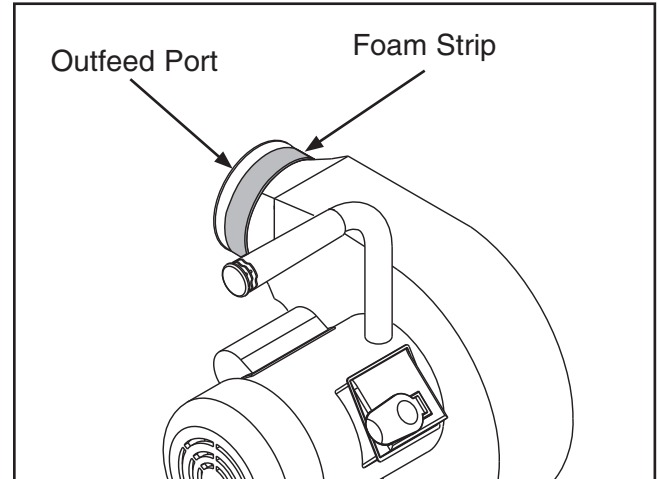

Figure 9. Location to install foam strip.
3. Wrap the foam strip around the outfeed port of the collector body, as shown in **Figure 9**. Cut to fit if necessary.